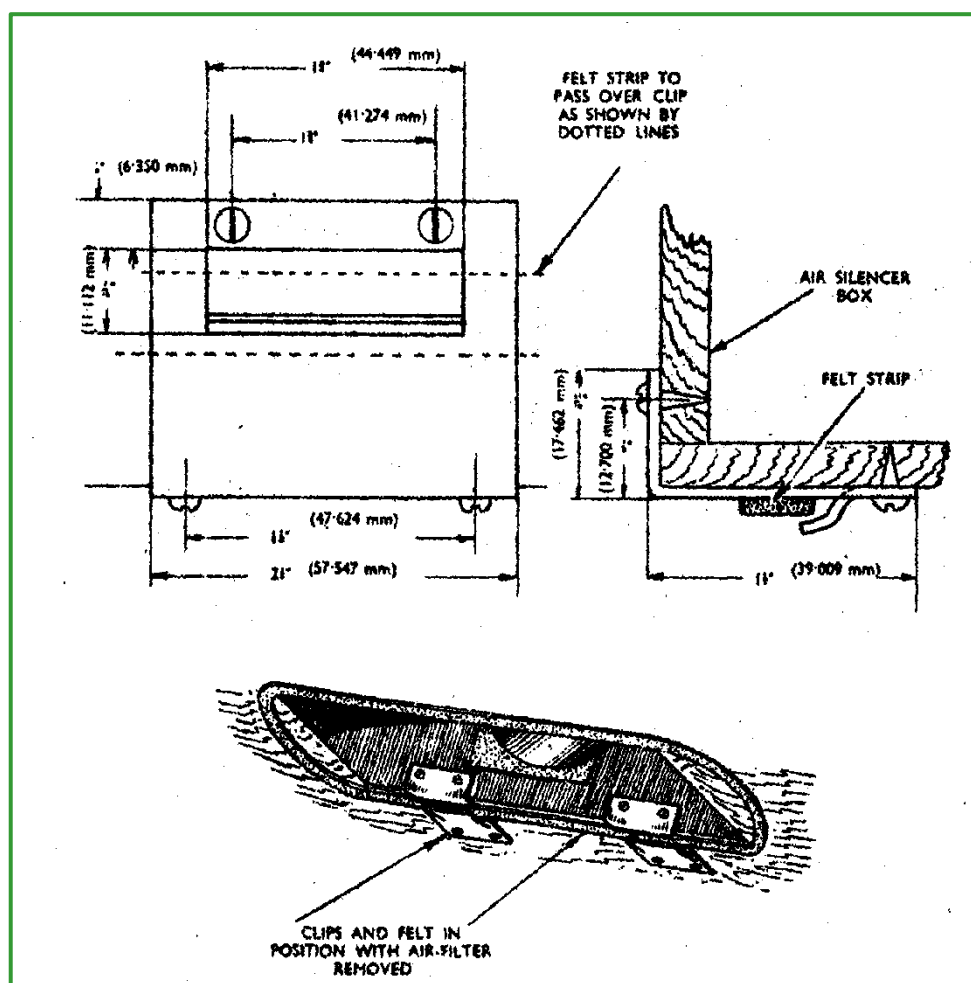

Figure 1. Modified air cleaner bracket arrangement.
The distance between the steering ball housing and the steering arm **must not** under any circumstances be less than $\frac{1}{16}$ -in. (1.587 mm) with the spring arm in the full rebound position. Please refer to Figure 1 for any clarification of this point.
Right: Figure 1. Steering ball nip clearance.
If the housing is free to rotate, a clearance is indicated between the inner edge of the steering ball housing and the steering ball neck. Please refer to *Figure 1*.
Above: Figure 1. Sketch showing position of rear number plate and light when fitting tow bar to 1951 De Luxe models.
1. Remove the number plate box from the bumper bar and fit a standard type rear number plate, Part Number 51032, to the rear boot panel in the position shown in Figure 1. Mount the four rubber washers, Part Number 51050.
Figure 1 above shows a PC Deluxe model with above items correctly positioned for the fitting of a tow bar attachment.
With effect from Engine Number E0 PB 8950 the woodscrews which secure the air filter brackets to the air silencer base, have been replaced by threaded screws and rivet nuts. On cars prior to the above Engine Number where difficulty is experienced with the original filter mounting, modified securing brackets may be fitted. This type of bracket, Part Number 54237, is held firmly in position by four wood screws set at right angles to each other, as shown in Figure 1.
Right: Figure 1. Hydraulic tappet extractor.
Right: Figure 1. Location of sludge release hole.
When vehicles prior to Engine No. E1 PC 17402 are in your service department for engine repairs, the opportunity may be taken to carry out the connecting rod modification as detailed in *Figure 1*.